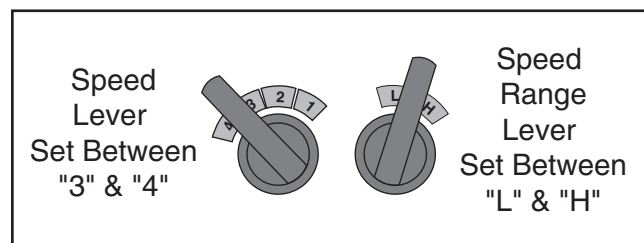

Figure 136. Spindle speed levers set to neutral.
3. Remove chuck, then shift spindle to neutral by positioning spindle speed lever between "3" and "4" and speed range lever between "L" and "H", as shown in **Figure 136**.